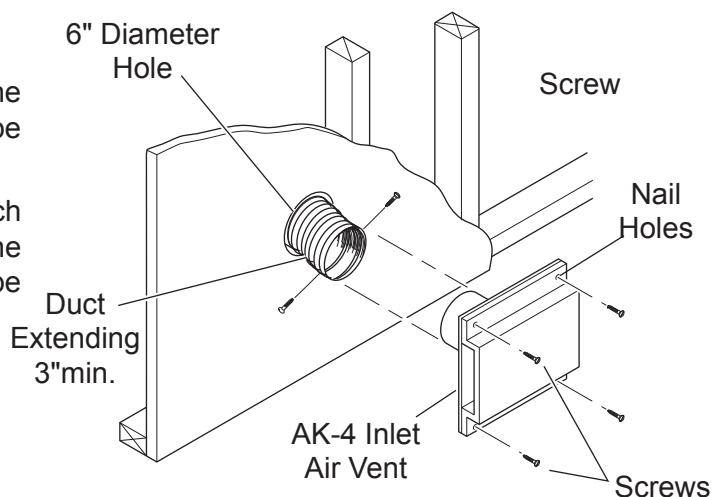

Figure 20 - Combustion Air Assembly for Model No. AK-4
5. Cut a 6-inch diameter opening for model AK-4 in the outside wall covering where the outside vent is to be located. See Figure 20.